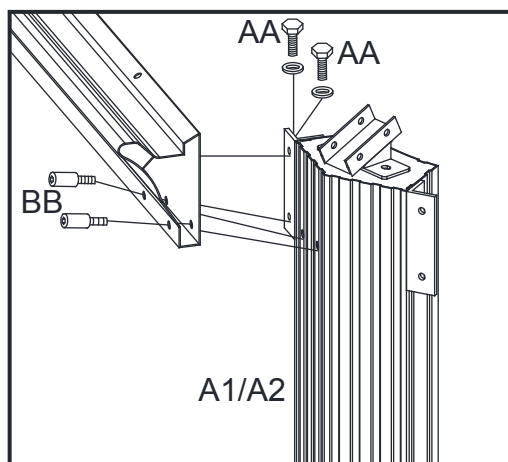

Fig.4
2.2 Attach the Lintel (C) to the Pole (A1/A2) with Bolt (BB). Attach the Lintel (C) to the Pole (A1/A2) with Bolt (AA), see Fig.4.